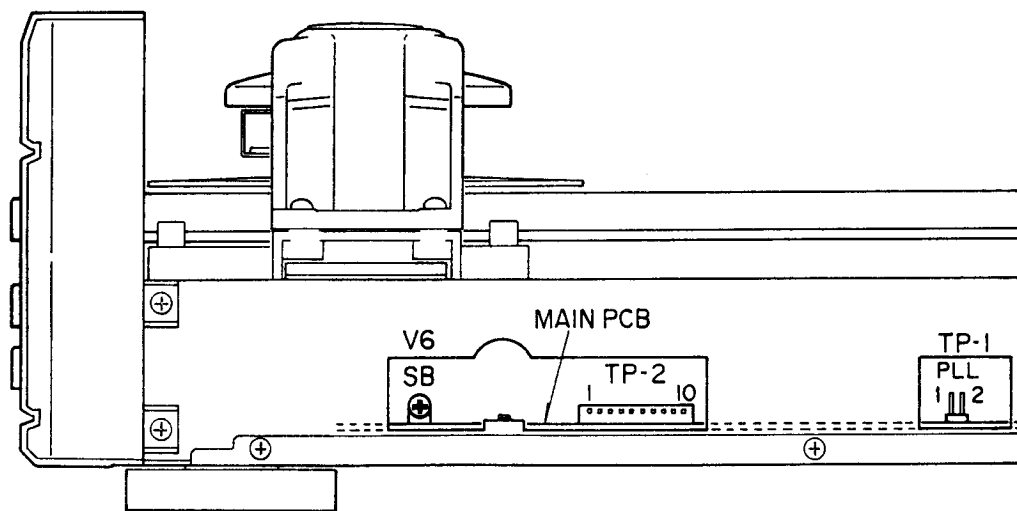

Fig. 4-6
- *ADJUSTMENT POINTS : MAIN PCB Assy (Fig.4-6)
- *調整箇所 : MAIN PCB Assy (Fig.4-6)